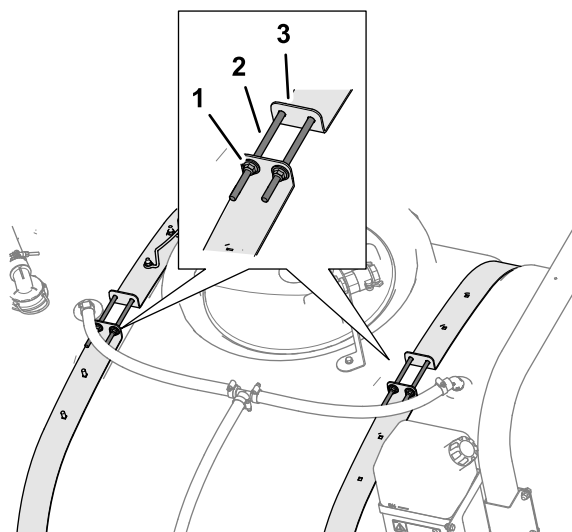

Figure 7
- Loosen the 4 flange locknuts and 4 bolts that secure the tank-strap halves (Figure 7).
3. Tighten the 4 flanged locknuts and 4 bolts at the top of straps until the straps are flush with the surface of the tank (Figure 7).